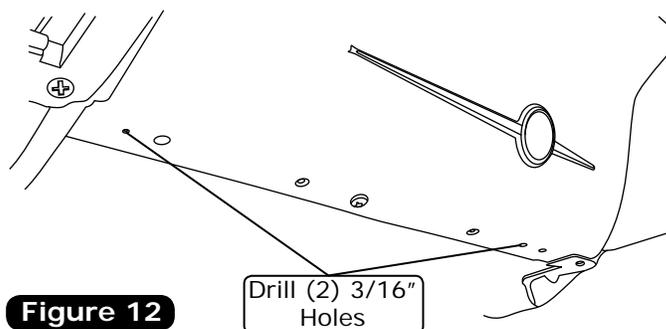

Figure 12
1. Using the (2) OEM dimples under the dash, drill (2) 3/16" holes in the dash as shown in Figure 12, below.